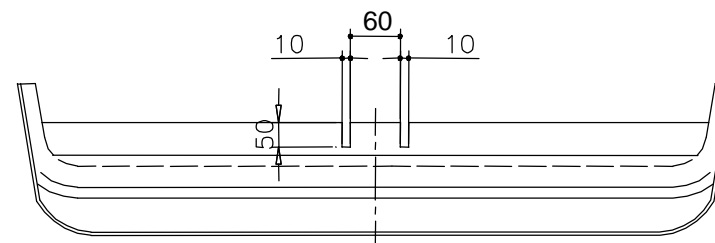

Fig.2
6. Install the bumper after the previous cut out of its fragment, see fig. 2.